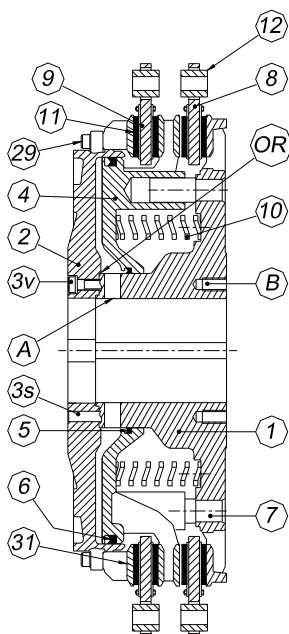

Fig. 1b - C/B unit with bushings. Lining stuck on screwed pads
- 1) by suspending them on screwed bushings (the ring is free to slide – fig. 1b)